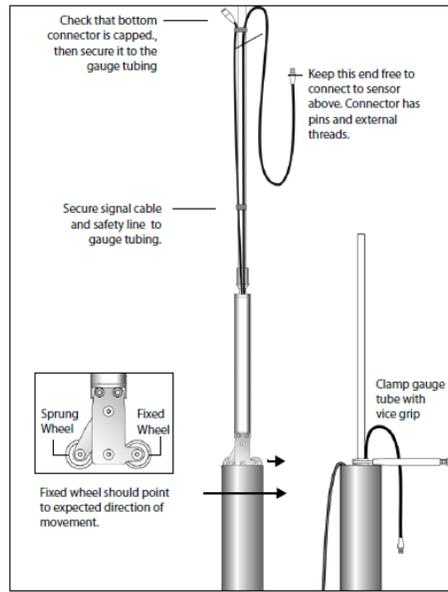

Figure 9
3. Insert first sensor in selected set of grooves. The fixed wheel should point to the expected direction of movement, as shown on Figure 9.